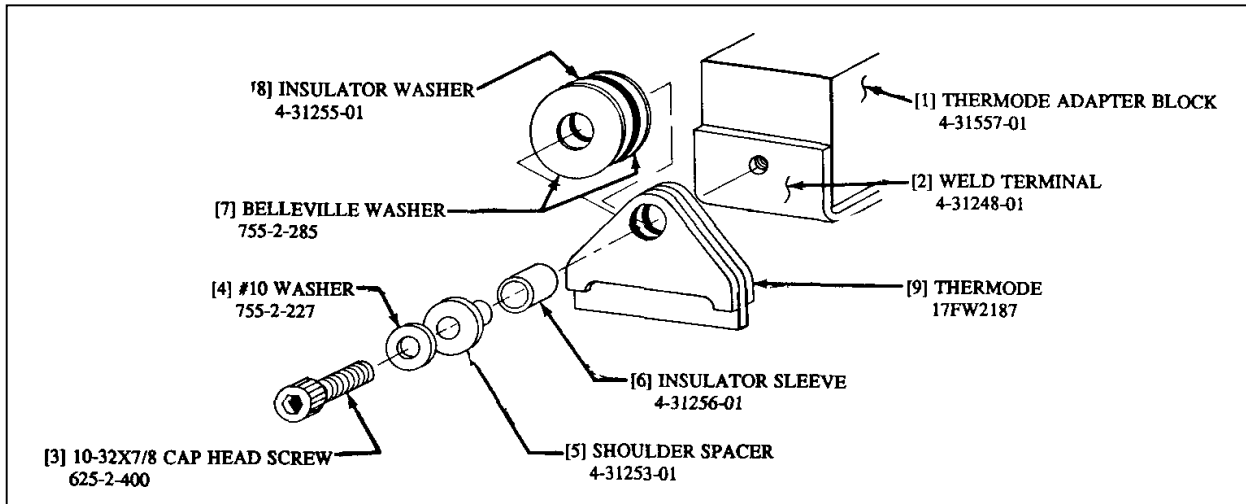

Figure 2-15. Fold-up Thermode, Pivot Installation
- 1 Reference Figure 2-15. Verify that the THERMODE ADAPTER BLOCK, item [1], has a single separate WELD TERMINAL, item [2].